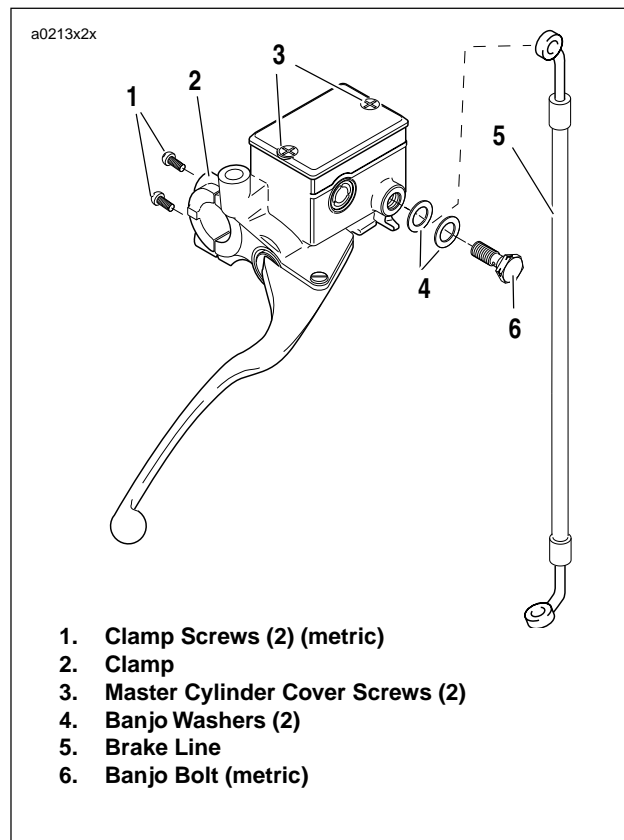
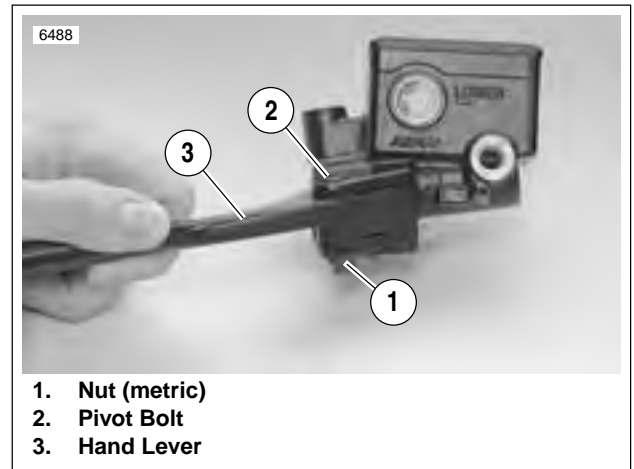
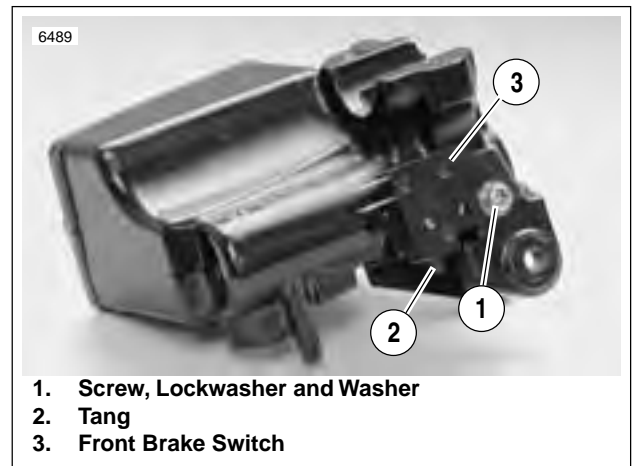

Figure 2-27. Front Master Cylinder
Figure 2-28. Hand Lever
Figure 2-29. Front Brake Switch
3. See Figure 2-27. Remove banjo bolt (6) (metric) and two banjo washers (4) to disconnect brake line (5) from master cylinder. Discard banjo washers.
- See Figure 2-28. Detach front brake hand lever.
- Remove nut (1) (metric) from lever pivot.
- Remove pivot bolt (2) from lever pivot.
- Detach front brake hand lever (3) from master cylinder assembly.
- See Figure 2-29. Remove screw, lockwasher and washer (1) holding front brake switch (3) to master cylinder assembly. Remove switch.
- a. Small end of spring (1) sits behind primary cup (2). Large side of primary cup faces spring.
- b. Secondary cup (3) sits within ridge at middle of piston (4).
2. Insert piston assembly, spring first, into master cylinder. Secure with a **new** snap ring (6).
3. Install ridge on boot (5) into groove on piston (4).
4. See Figure 2-28. Install front brake hand lever.
- a. Align hole in lever (3) with hole in master cylinder assembly.
- b. Lubricate pivot bolt (2) with LOCTITE ANTI-SEIZE.
- d. Install nut (1) (metric). Tighten to 44-62 **in-lbs** (5-7 Nm).
5. See Figure 2-27. Install front brake lamp switch (7).
- a. Attach front brake switch with screw, washer and lockwasher (1). Tighten to 7-13 **in-lbs** (0.8-1.5 Nm).
- b. Test switch action. Tang (3) on switch must release when hand lever (2) is moved.
1. See Figure 2-27. Fasten master cylinder to handlebar by installing clamp (2) and screws (1) (metric). Tighten to 80-120 **in-lbs** (9-14 Nm).
5. See Figure 2-27. Remove the two master cylinder cover screws (3), cover and cover gasket.
9. See Figure 2-27. Attach master cylinder cover and cover gasket with the two cover screws (3). Tighten to 9-13 in-lbs (1.0-1.5 Nm).